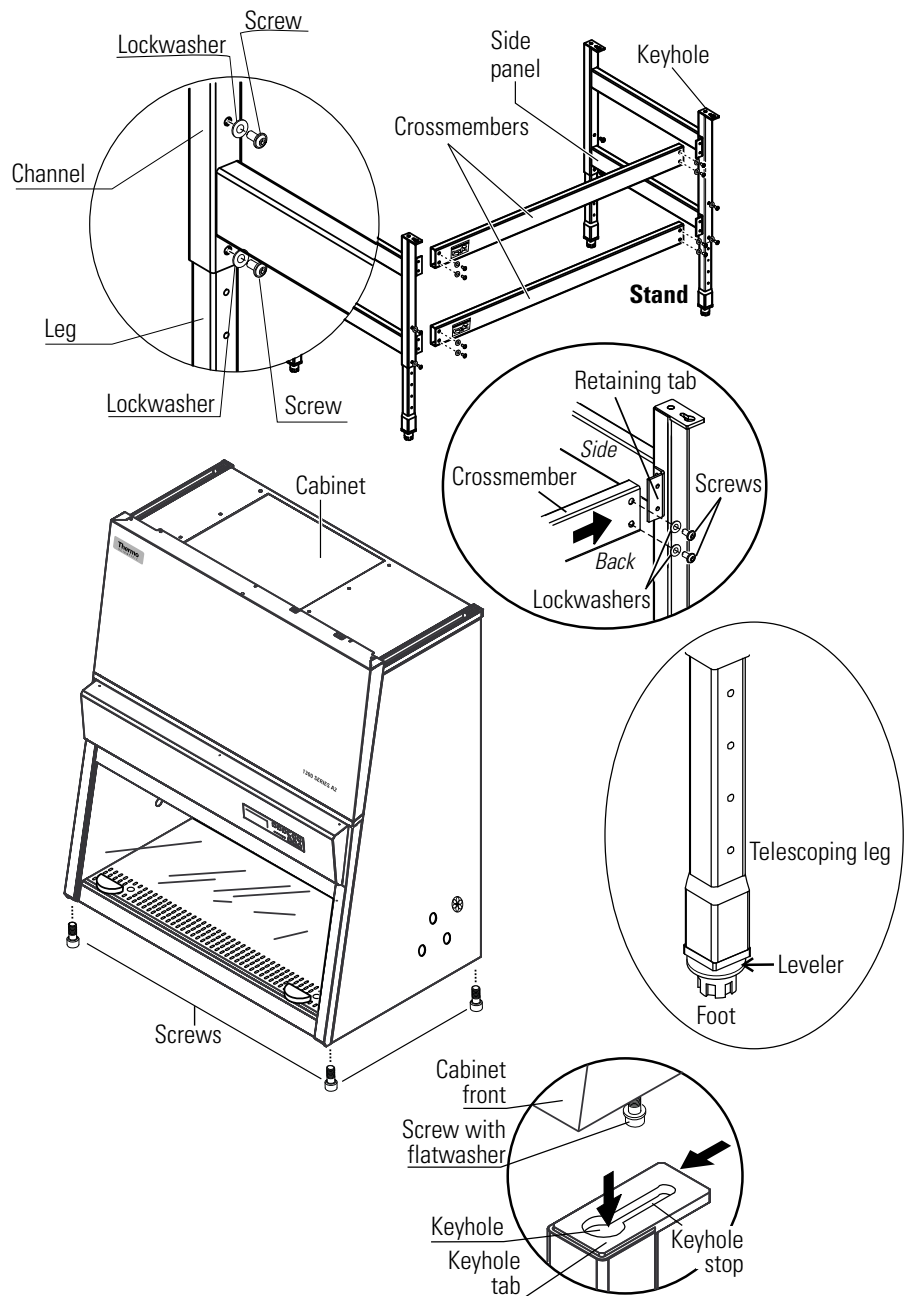

Figure 3-1. Stand Assembly
2. Locate the left and right side panels. Install the telescoping leg assemblies into the side panels as shown in Figure 3-1.
4. Locate the two crossmembers from the packaging. Note they are packaged separately from the side panels. With the label on the crossmember to the outside (Figure 3-1), install the crossmembers onto the retaining tabs of the side panels. Place lockwashers on screws, then install all screws by hand, before tightening to secure together.
7. Slide the cabinet frame to the keyhole stop (Fig. 3-1).